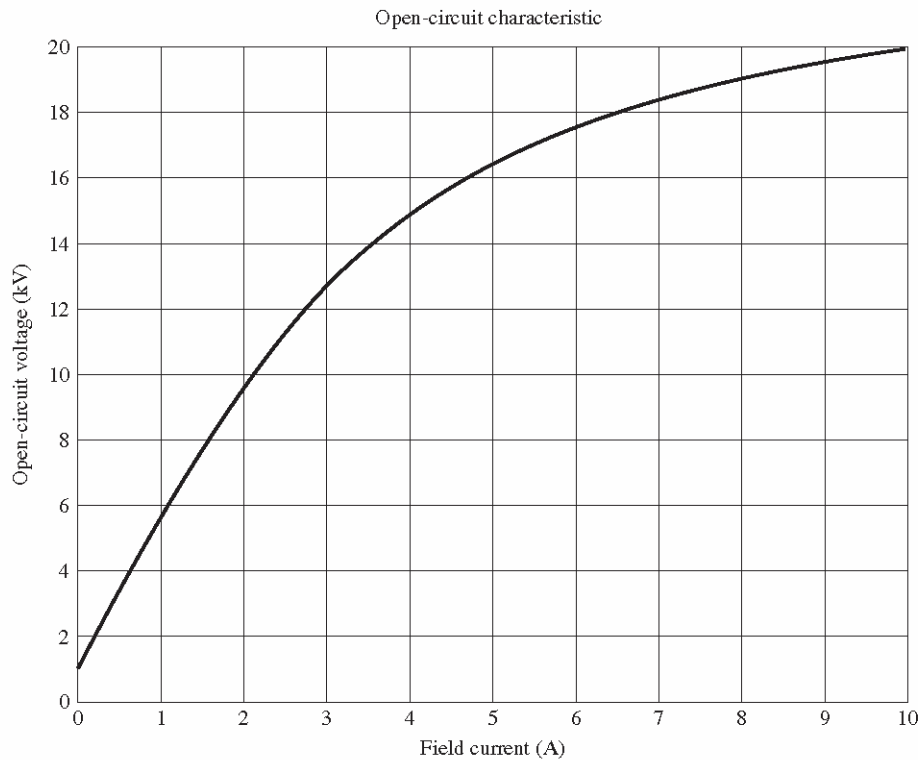

FIGURE P4-1
- 4-2.** A 13.8-kV, 50-MVA, 0.9-power-factor-lagging, 60-Hz, four-pole Y-connected synchronous generator has a synchronous reactance of 2.5Ω and an armature resistance of 0.2Ω . At 60 Hz, its friction and windage losses are 1 MW, and its core losses are 1.5 MW. The field circuit has a dc voltage of 120 V, and the maximum I_F is 10 A. The current of the field circuit is adjustable over the range from 0 to 10 A. The OCC of this generator is shown in Figure P4-1.